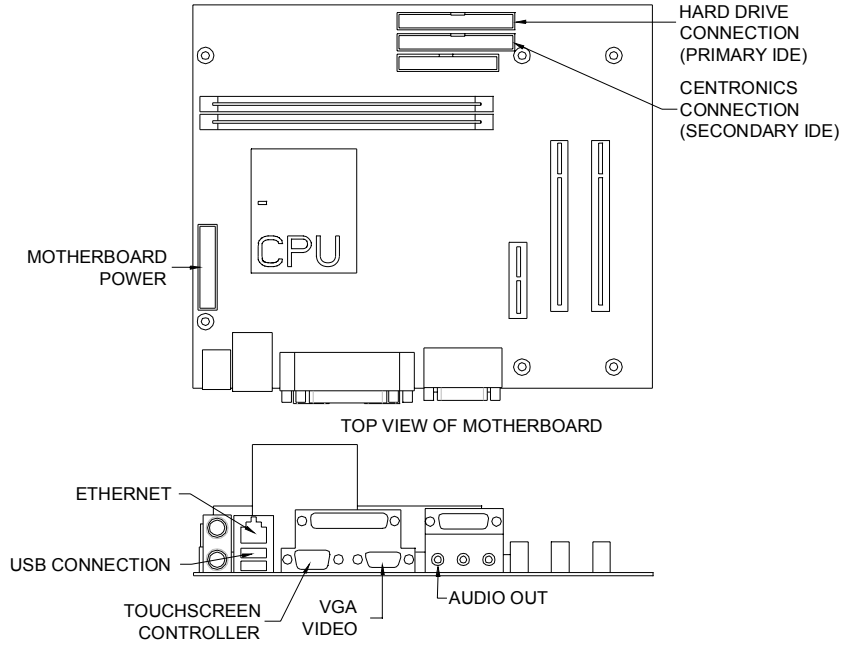
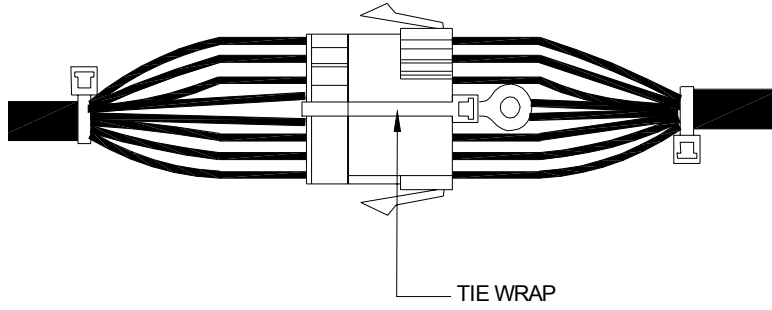

FIGURE 30 - ECS FORCE MOTHERBOARD DRAWING
FIGURE 34 - TIE WRAP CONNECTING TWO CABLES
35. Connect one end of the supplied Ethernet cable (EC0072-10) to the inside of the Ethernet coupler. Connect the other end to the Ethernet port on the motherboard (see Figure 30).
39. Reconnect the VGA connector to the motherboard. See Figure 30.
40. Reconnect the touchscreen controller connector to the motherboard. See Figure 30.
41. Connect the USB cable from the I/O board (USB-B) to the motherboard (USB-A). See Figures 30 and 31.
43. *If your original I/O board was the SA10047 or SA10023 XL series board:* Connect the SB0450-01 adapter harness to your existing I/O connector. Connect the other end of the harness to J1, J2, and J11 on the I/O board. See Figure 30. Pass a supplied tie wrap through the two mated connectors and tighten. See Figure 34.
If your original I/O board was the SA10051 series board: Connect the SB0451-01 I/O adapter harness to your existing I/O connector. Connect the other end of the harness to J1, J2, and J11 on the I/O board. See Figure 30. Pass a supplied tie wrap through the mated connectors and tighten. See Figure 34.